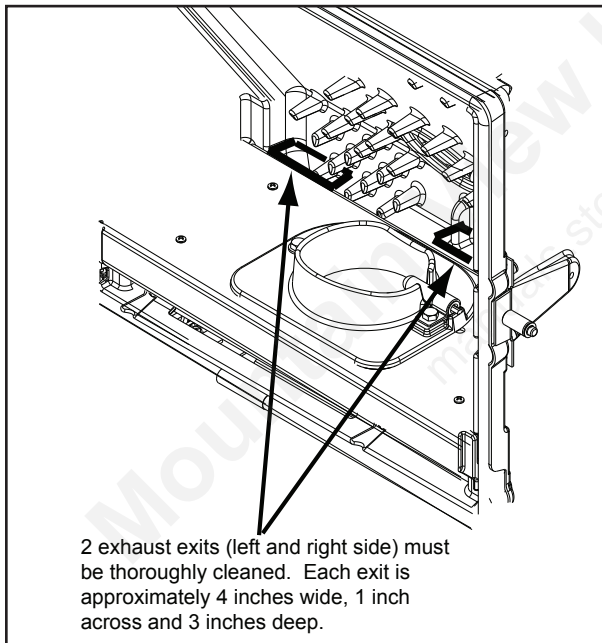

Figure 36.2
- d. Use the crevice tool to finish cleaning the heat exchanger fins. It is critical that the 2 exhaust exits at the back of the firebox floor (left and right) be thoroughly cleaned. **Figure 36.2.** There are several ways this can done.